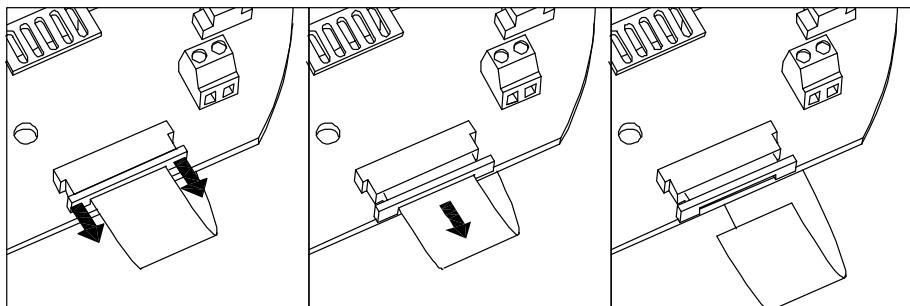

Figure 7.2 Ribbon cable connector
2. Disconnect the ribbon cable (H) from the sensor processor card (E) according to Figure 7.2. Disconnect the LED lead connector (J) and the temperature element lead (K) screw terminals.